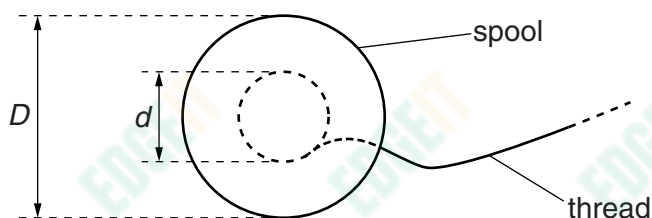

Fig. 2.1
- (a) (i) Using the smaller of the two spools provided, take measurements to determine the outside diameter D and the inner diameter d , as shown in Fig. 2.1.